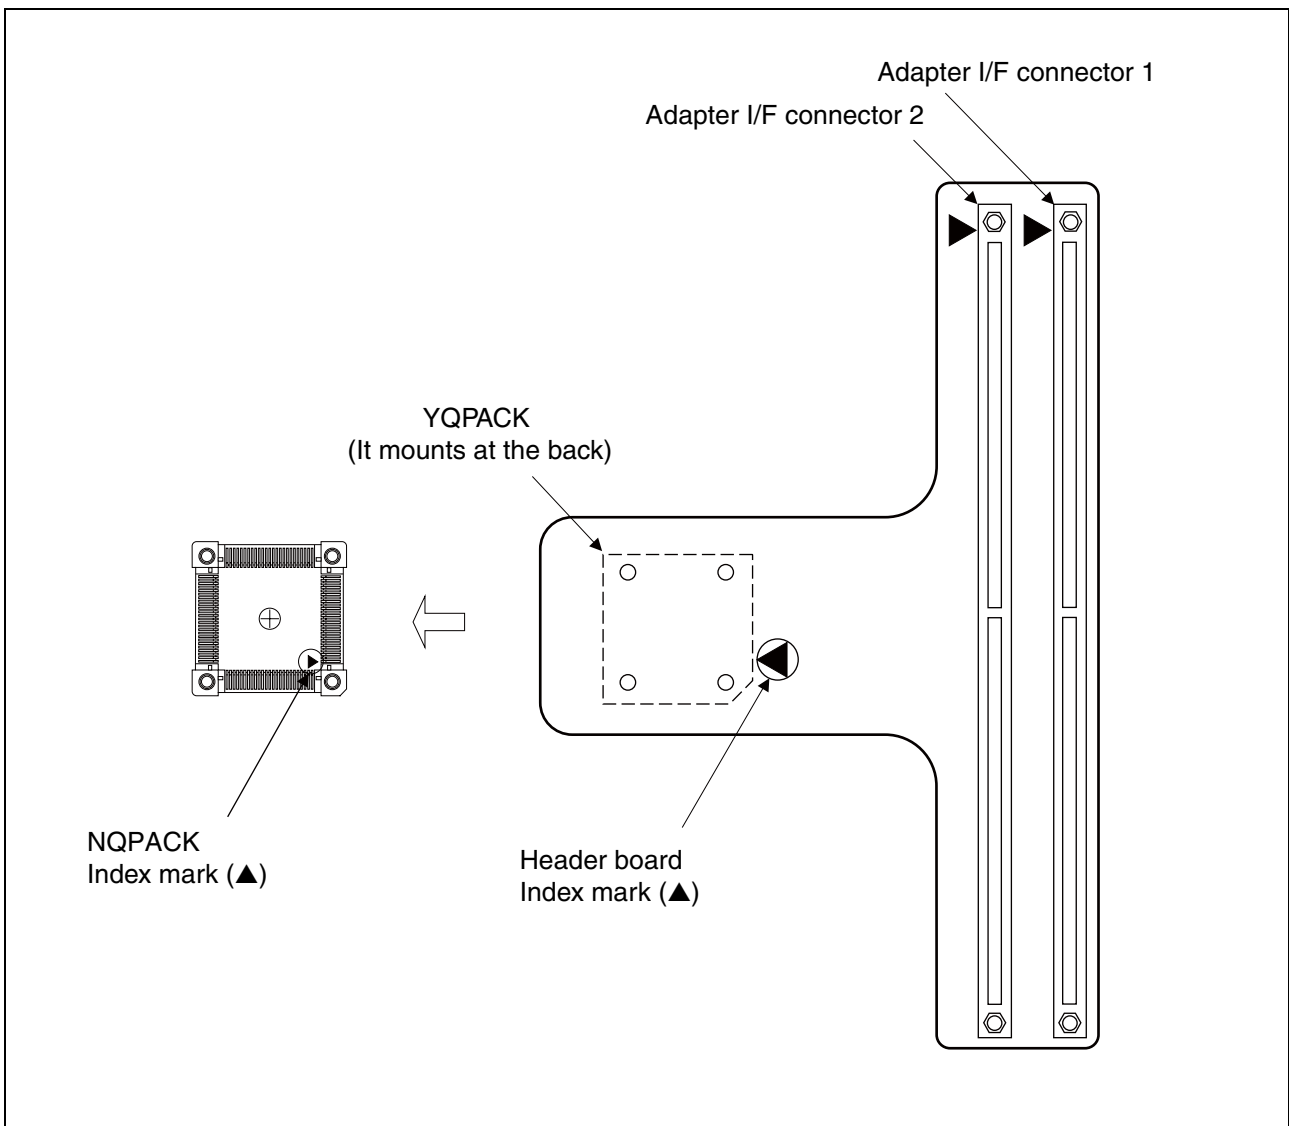

Figure 3 Index position
1. To connect the header board to the user system, align pin 1 indicated by the index mark (▲) on the NQPACK mounted on the user system with the index mark (▲) on the header board and then insert it (See Figure 3).